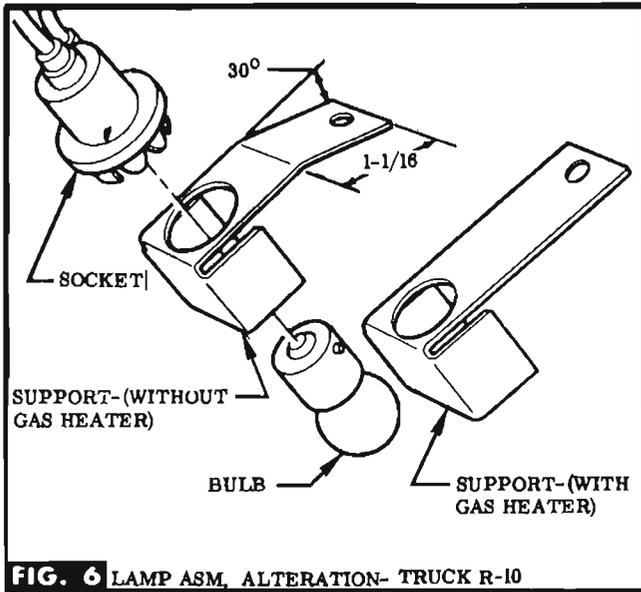

FIG. 6 LAMP ASM. ALTERATION- TRUCK R-10
STEP 1 REMOVE BULB & SOCKET FROM EACH SUPPORT & ALTER SUPPORT AS SHOWN, REASSEMBLE SOCKETS, SUPPORTS & BULBS, SEE FIG. 6. **NOTE** If Gasoline Heater exists, lamp support must be straightened to eliminate bend.